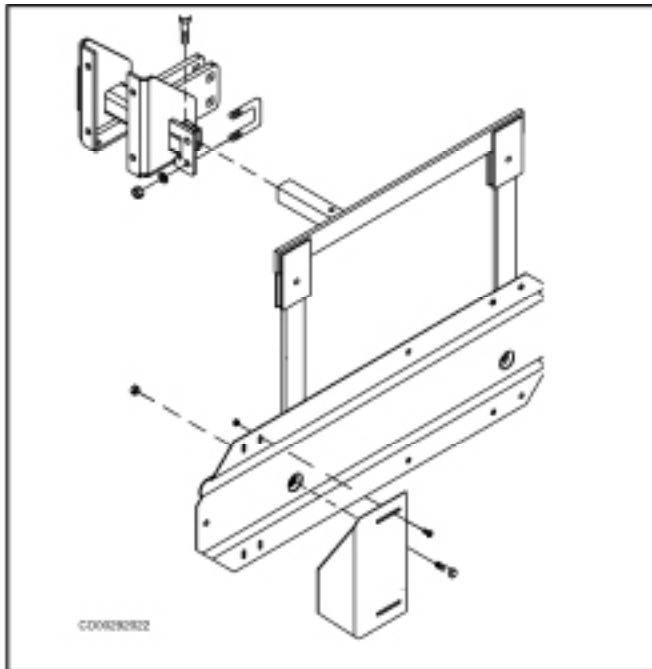

Figure 45 Attaching Shields
1. Attach shield guides, using  $1/4$  NC  $\times 1$ " carriage bolts and hex nuts as shown in Figure 45.